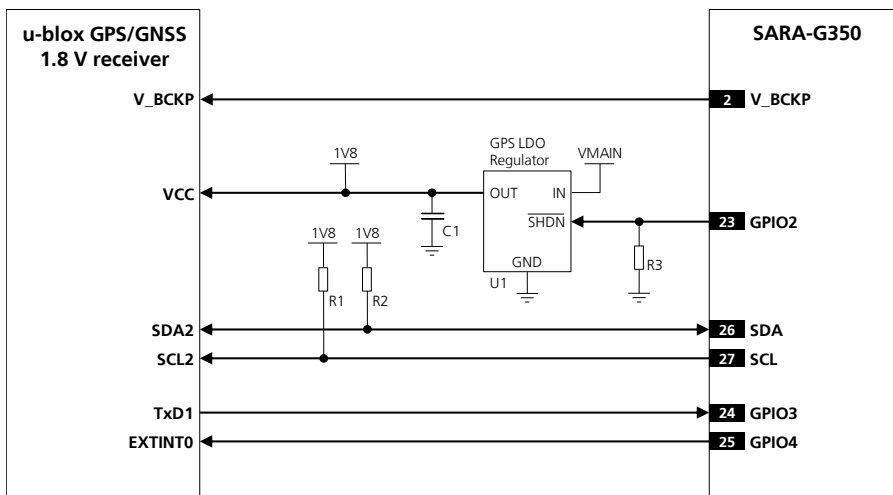

Figure 52: DDC (I2C) application circuit for u-blox 1.8 V GPS/GNSS receiver
-  Provide external pull-ups resistors (e.g. 4.7 kΩ) on **SDA** and **SCL** lines and connect them to the **V\_INT** 1.8 V supply source, or another 1.8 V supply source enabled after **V\_INT** (e.g., as the 1.8 V supply present in the application circuit of Figure 52, controlled by the wireless module).
Figure 52 illustrates an application circuit for SARA-G350 connection to a u-blox 1.8 V GPS/GNSS receiver: